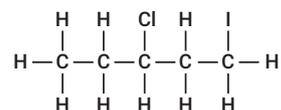

FIGURE 12.3.7 3-Chloro-1-iodopentane
8. If there is more than one functional group of similar priority, then the functional groups are listed in alphabetical order, each with the number indicating its position on the longest chain. **Figure 12.3.7** shows an example of this naming convention.